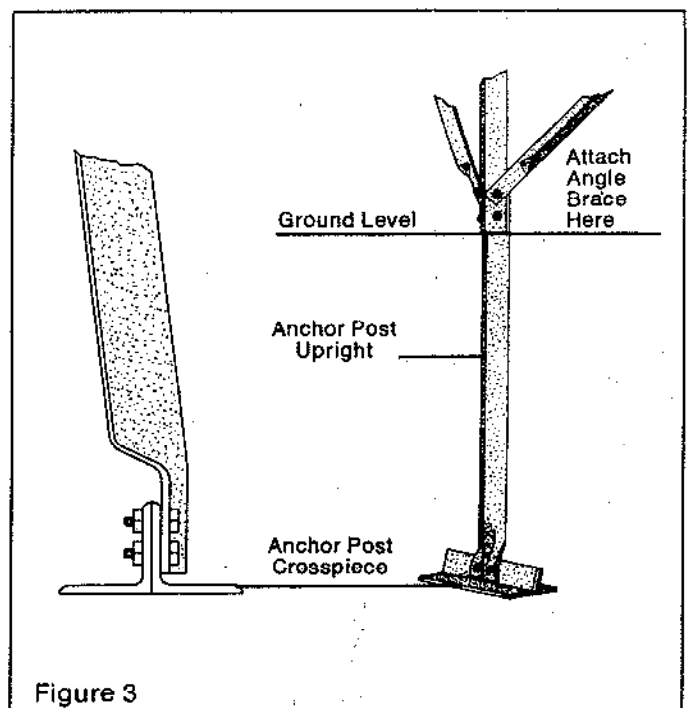

Figure 3
Bolt two (2) anchor post crosspieces back to back to the anchor post upright (See Figure 3). Tighten the nuts securely. Put the anchors in the anchor holes BUT DO NOT FILL THE HOLES AT THIS TIME.